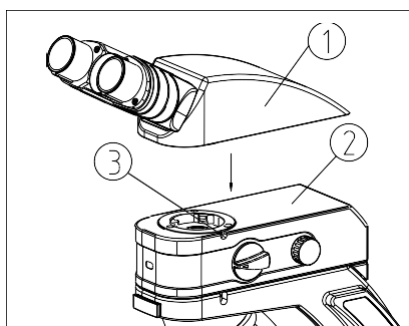

Fig. 27
(3) Put the binocular/ trinocular Head ① on the LED fluorescence illuminator ②, and fix it with the lock screw ③ by the hexagon spanner. (See Fig. 27)
(4) Insert one end of the power cable ① into the power socket ② of the LED fluorescence illuminator back, and then insert the other end into the power socket ③ of the microscope back, and ensure them be connected well. (see Fig. 27)